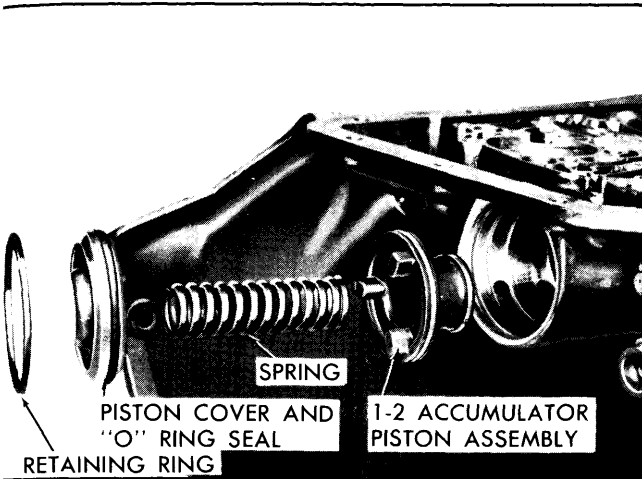

Fig. 7-57—Accumulator Parts
28. Remove 1-2 accumulator piston assembly. (Fig. 7-57)